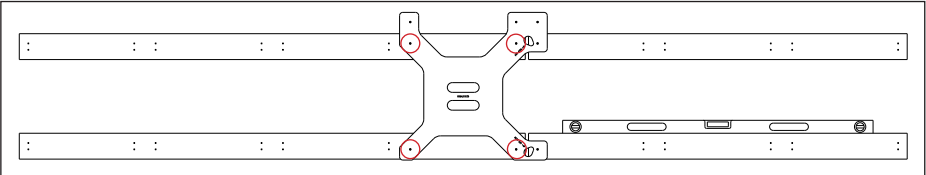
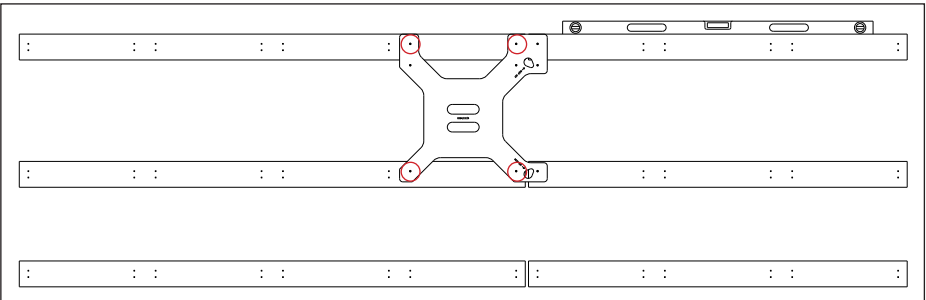

Figure 6: Install Adjacent Wall Tubes
Figure 7: Install Adjacent Wall Tubes
5. Install adjacent wall tubes while referring to **Figure 6** and **Figure 7**:
- d. Drill four 17/64" (~0.266") clearance holes through the front and rear walls of the tube at all stud locations. Refer to **Figure 6** and **Figure 7**.